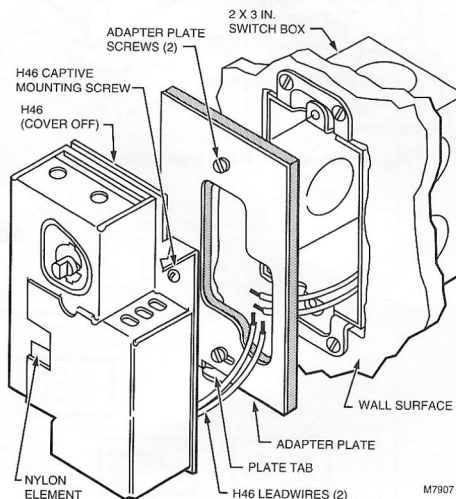

Fig. 1. Mounting H46C on vertical switch box.
- 4 Using the two screws provided, fasten the adapter plate to the switch box as shown. See Fig. 1.